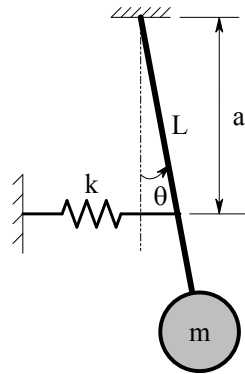

Fig. 4 (a) An oscillating pendulum
- b) Find the frequency of the oscillations of the system shown in Fig. 4(b). The (5)